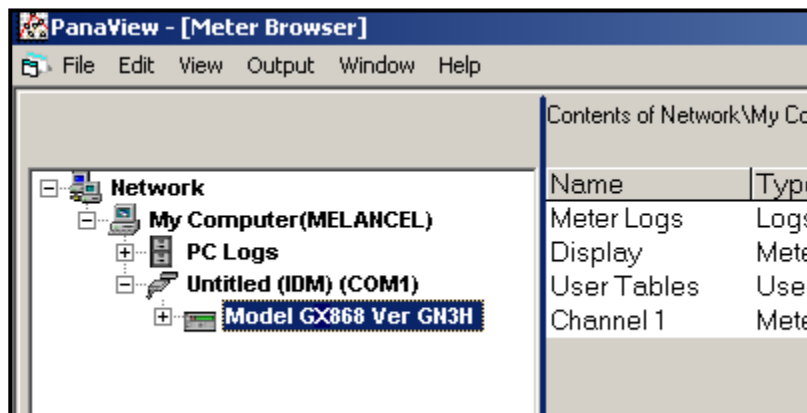

Figure 23: The Updated Network Tree
IMPORTANT: The Network ID number must match the Network ID programmed in the meter’s Communications menu. If the initialization is successful, the Meter Browser shows a listing similar to Figure 23 below.
1. Highlight the meter (as shown in *Figure 23 on page 98*).